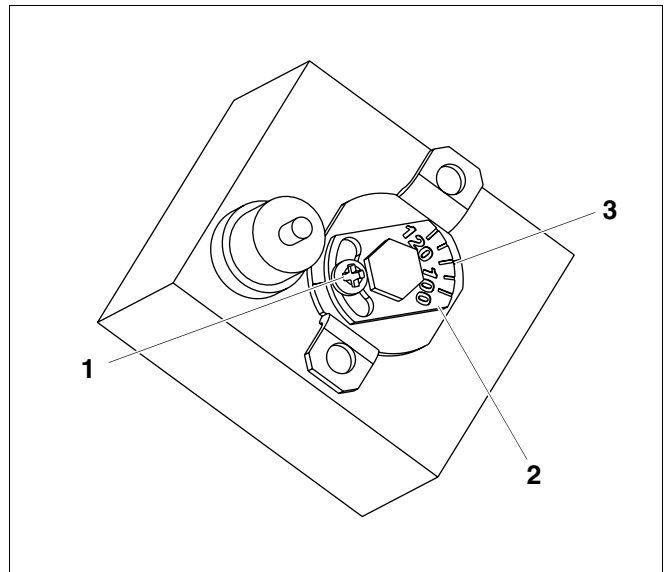

Fig. 3 Version A
#### 2.2.1 Fig. 3 Version A
- Release the screw (Fig. 3, **Item 1**).
- Set the thin plate with the temperature scale (Fig. 3, **Item 2**) to the required setting (Fig. 3, **Item 3**).
- Re-tighten the screw (Fig. 3, **Item 1**).